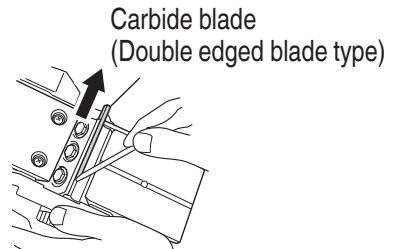

Fig. 9
- (2) As shown in **Fig. 9**, remove the carbide blade by sliding it with the attached box wrench.